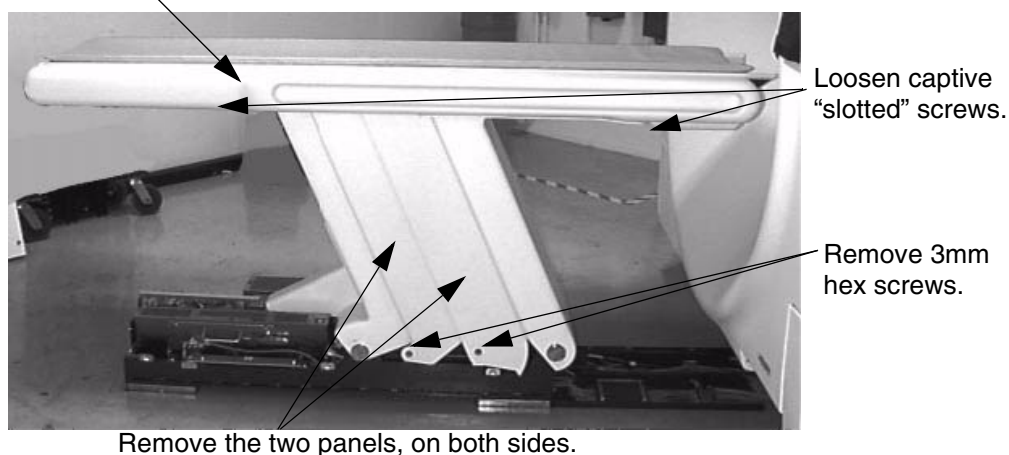

Figure 1-17 Table Cover Removal
- 4.) Remove the table left and right upper side covers (see Figure 1-17).